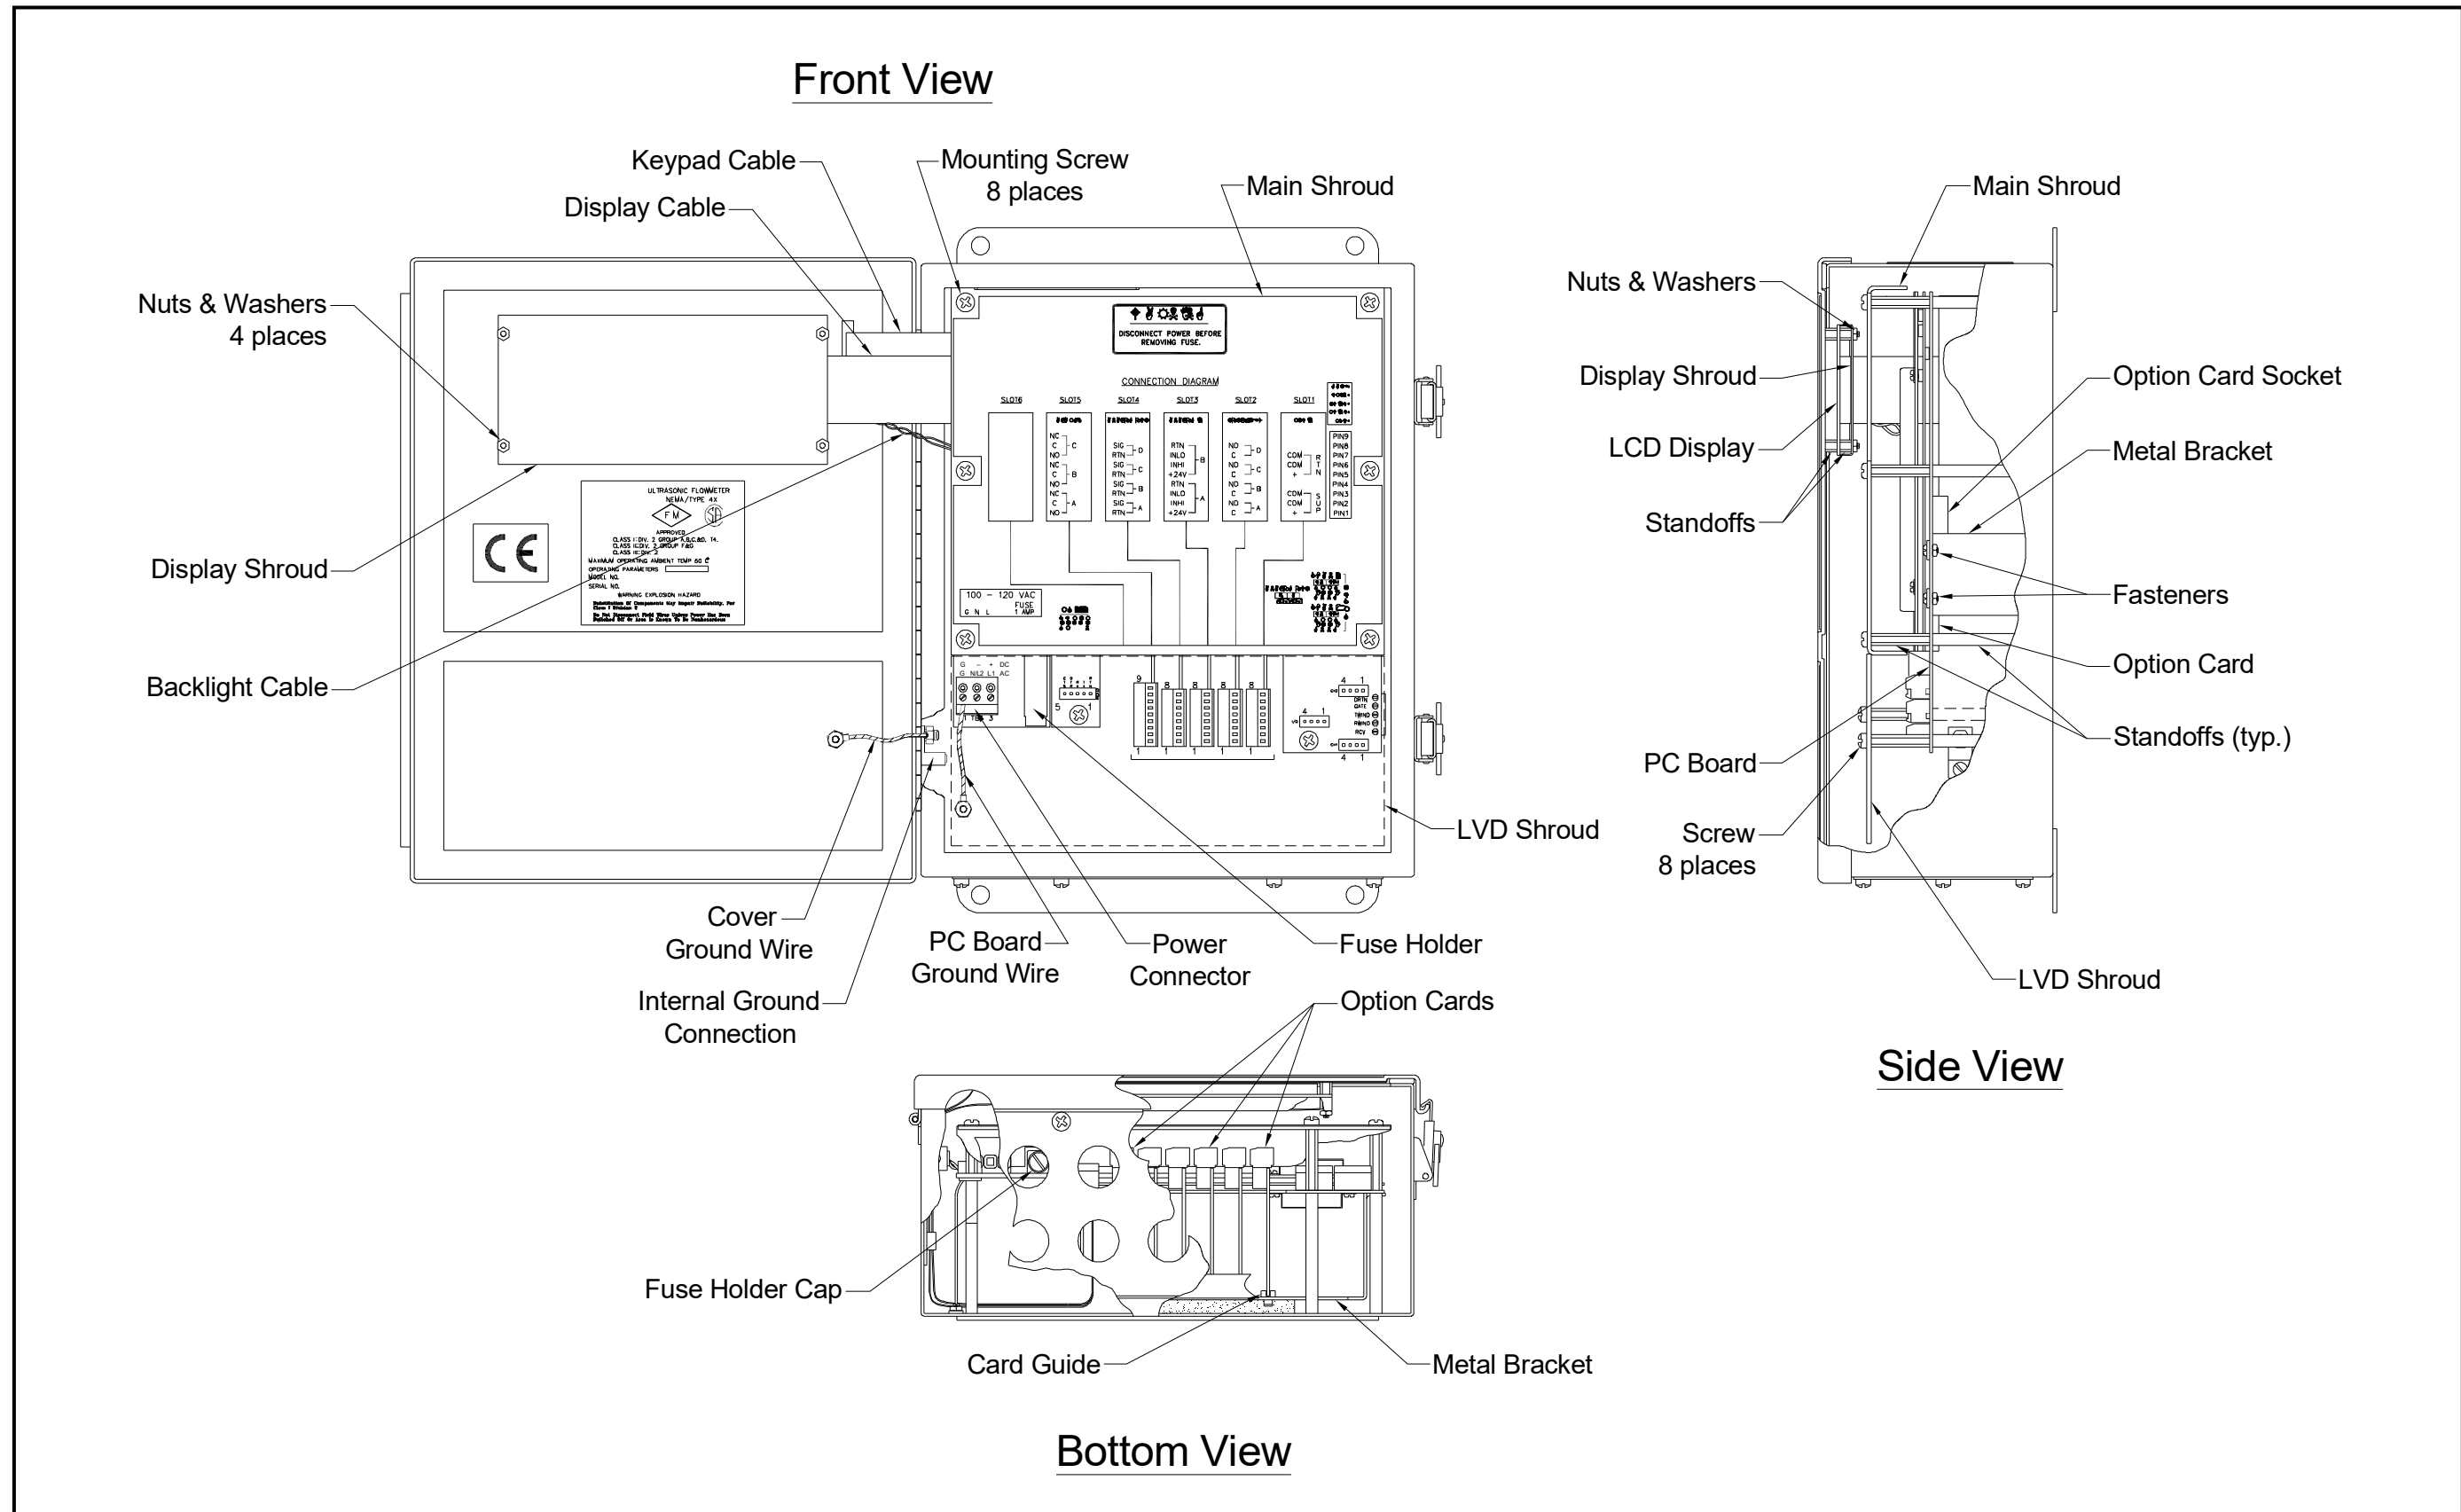
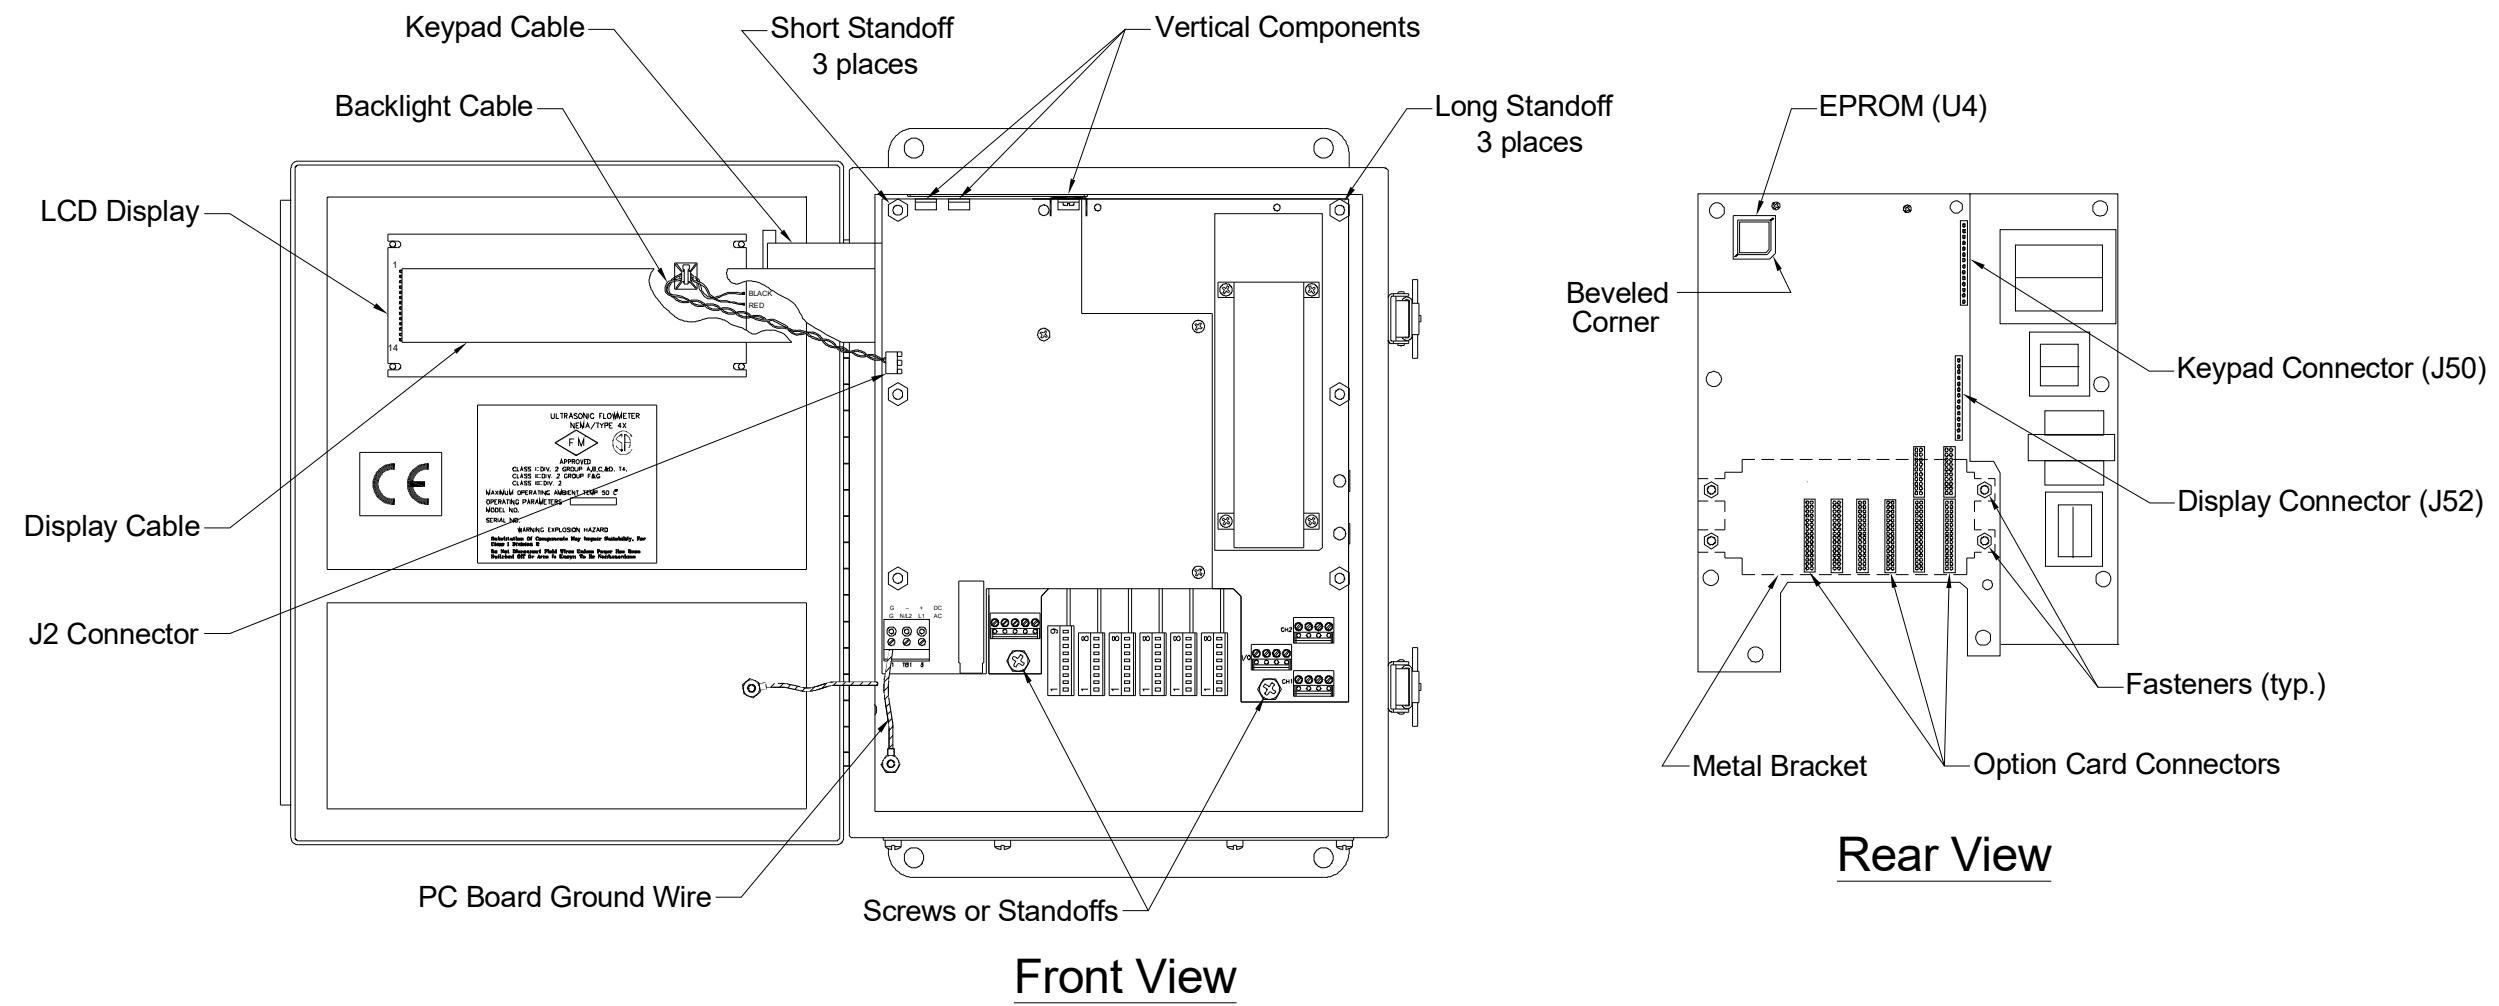

Figure 8: Standard Model GC868 - Electronics Console Assembly
Figure 9: Standard Model GC868 - Printed Circuit Board Assembly
All of the remaining maintenance procedures discussed in this chapter require removal of the printed circuit board. To accomplish this task, see *Figure 8* and *Figure 9* and complete the following:
CAUTION! During this procedure, be very careful not to damage the upright components along the top edge of the printed circuit board (see *Figure 9*). Severe or repeated bending of these components will break their leads.
The Model GC868's *User Program* is stored on an erasable programmable read only memory (EPROM) chip. The EPROM, designated as component **U4**, is located in the top left corner of the bottom of the printed circuit board. See *Figure 9* for a rear view of the printed circuit board. EPROM replacement may be required to replace a defective chip or to upgrade to a newer software version. To replace the EPROM, complete the following steps:
To install an option card, refer to *Figure 9* and complete the following steps:
5. Place the metal bracket over the option cards, making sure that all option cards are aligned with the plastic card guides in the bracket. Secure the metal bracket to the printed circuit board with the snap rivets provided. See *Figure 8* for the installed assembly.
The Model GC868's measurements are displayed on a two-pane LCD graphic display panel. The LCD display normally provides years of dependable service, but it is easily field-replaceable when necessary. To replace the LCD display, see *Figure 8* for the component locations, and complete the following steps:
4. Place the new LCD display assembly over the mounting studs on the console cover and fasten it in place with the four standoffs. Make sure that the LCD display assembly is oriented as shown in *Figure 9*.
Whether the printed circuit board was removed for replacement or for one of the other procedures discussed in this chapter, reinstallation of the printed circuit board is the final step in the process. Refer to *Figure 8* and complete the following steps:
CAUTION! During this procedure, be very careful not to damage the vertical components along the top edge of the printed circuit board (see *Figure 9*). Severe or repeated bending of these components will break their leads.
1. Position the printed circuit board within the electronics console with the top edge tilted forward. Insert the display ribbon cable and keypad ribbon cable connectors into their sockets on the rear of the printed circuit board. See *Figure 8* and *Figure 9* to identify the cables and sockets. Note that the keypad cable connects to the upper socket and the display cable connects to the lower socket.